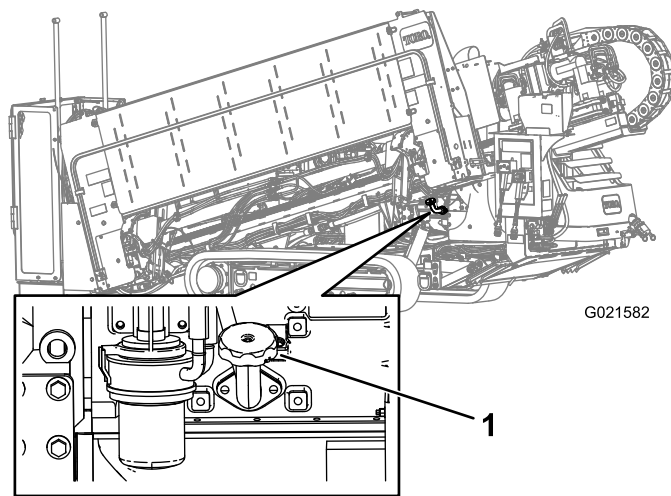

Figure 121
- A. Remove the fill cap (Figure 121) and add oil until the level reaches the High mark. **Do not overfill.**